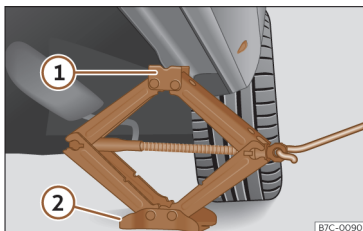

Fig. 239 Crossbar: mounting the jack on the vehicle.
- Turn the jack crank handle, located below the strut support point, to raise it until the tab ① >>> **Fig. 239** is below the housing that is provided.
- Align the jack so that the tab ① “grips” onto the housing provided on the cross member and the mobile base ② is resting on the ground. The base plate ② should fall vertically with respect to the support point ①.